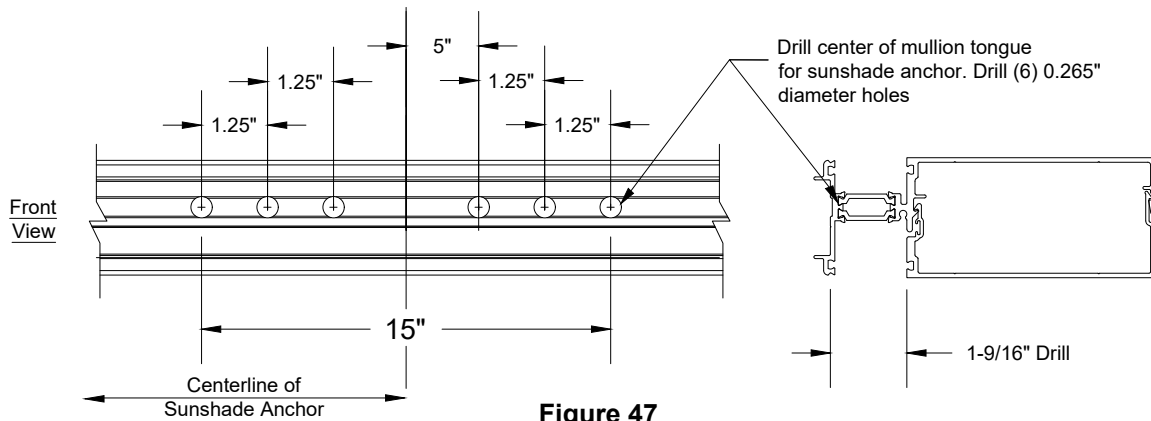

Figure 47
- 1) Locate the centerline of each sunshade anchor on each mullion. Set the anchor in the appropriate position and match drill the 6 clear holes of the anchor into the front aluminum tongue of the mullion with 0.265" diameter clear holes. The standard sunshade anchor (SS-202-02) for Reliance-TCSS Curtain Wall Inside Glazed will require (6) 3/8" diameter pipe sleeves. Drill the previously matched drill holes to 0.390" x 1-9/16" deep. See FIGURE 47. (Size, locations and quantity of bolts may vary based on project requirements. Consult engineer for specific applications).